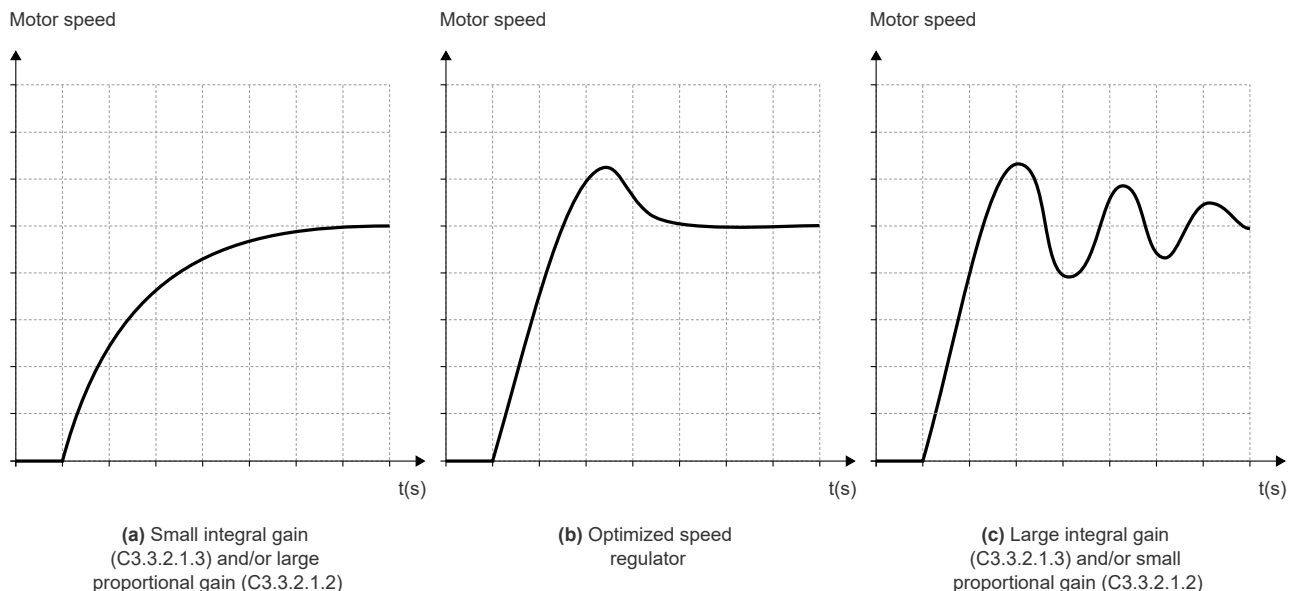

Figure 9.10: (a), (b) and (c) - Types of speed regulator response
6. Check among the options in Figure 9.10 which waveform best represents the read signal.
7. Set C3.3.2.1.2 and C3.3.2.1.3 according to the type of response shown in Figure 9.10.